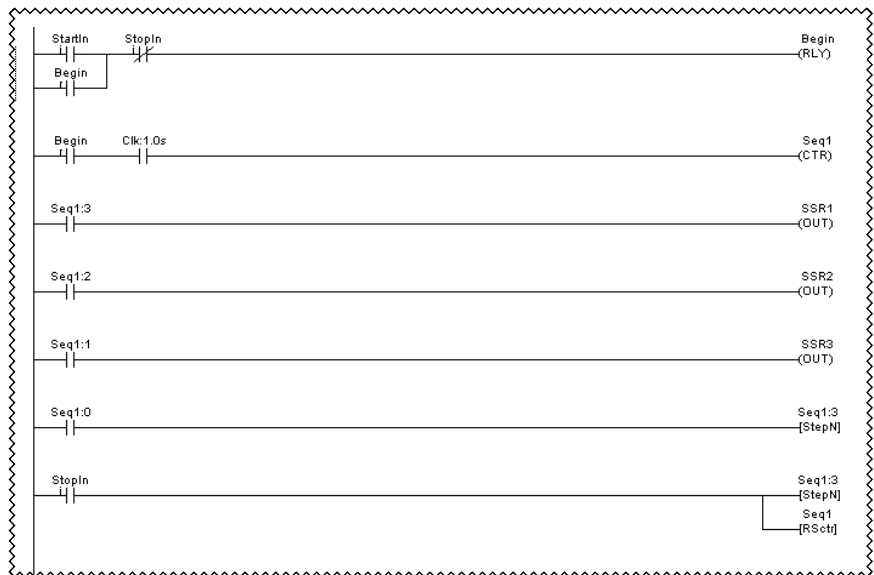

Fig. 2
3. Create the following ladder logic diagram as in Fig. 2. The clock is a Special Bit and is used to pulse the counter. The StepN is a special function and will reset the sequence to first event. The RSctr is also a special function that will reset the counter.